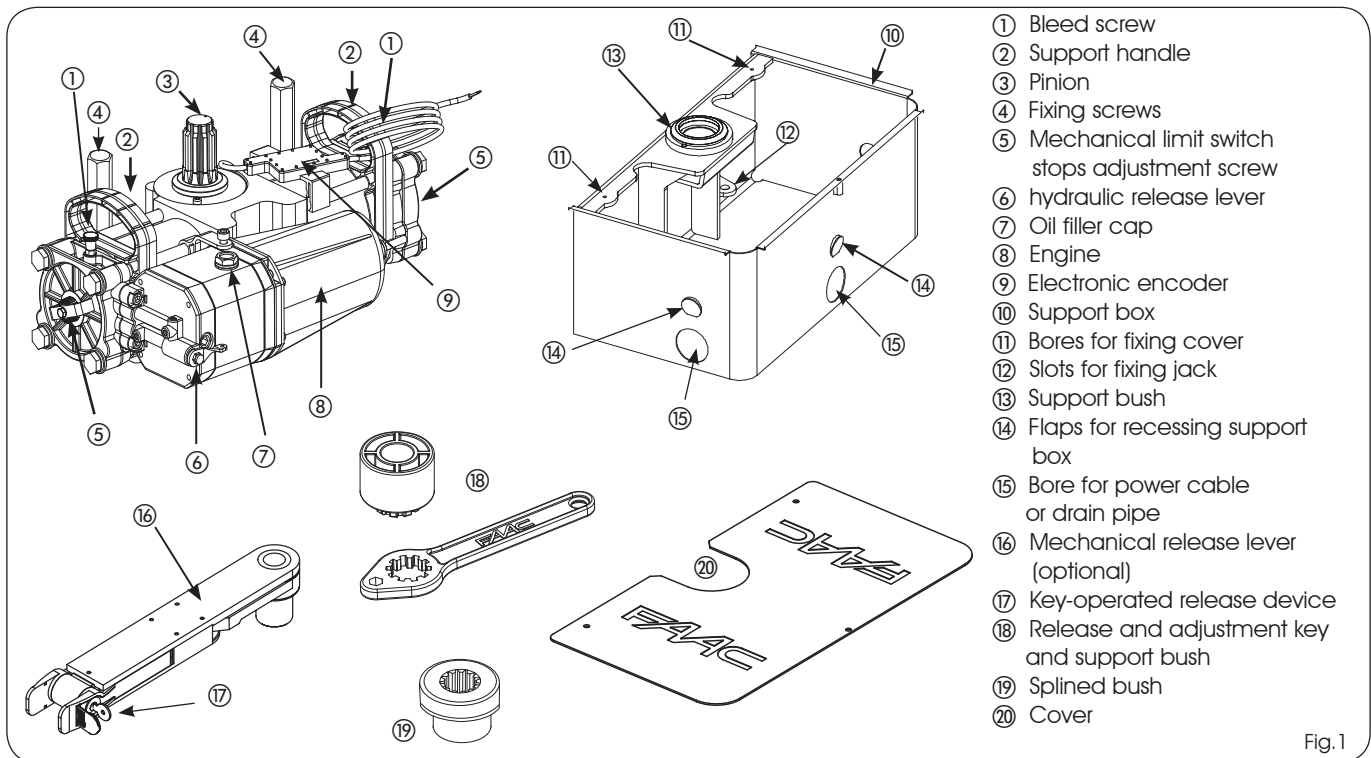
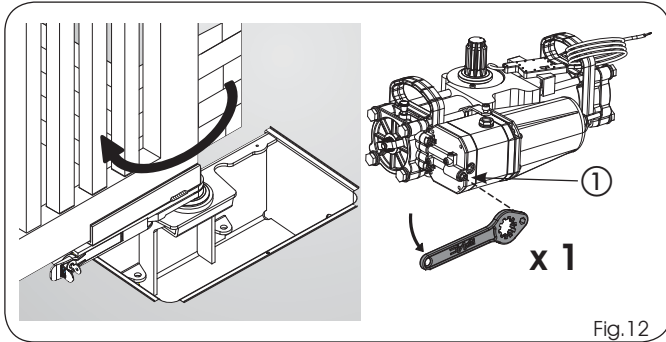

Fig.1
Fig.12
- 2) Referring to the instructions in chapter 7.1, act on the operator's hydraulic release by turning the lever (Fig.1 ref.⑥) or using the specific key (Fig.1 ref.⑱) turn the release screw (Fig.3 ref.①).
- 2) Referring to the instructions in chapter 7.1, act on the operator's hydraulic release by turning the lever (Fig.1 ref.⑥) or using the specific key (Fig.1 ref.⑱) turn the release screw (Fig.12 ref.①).